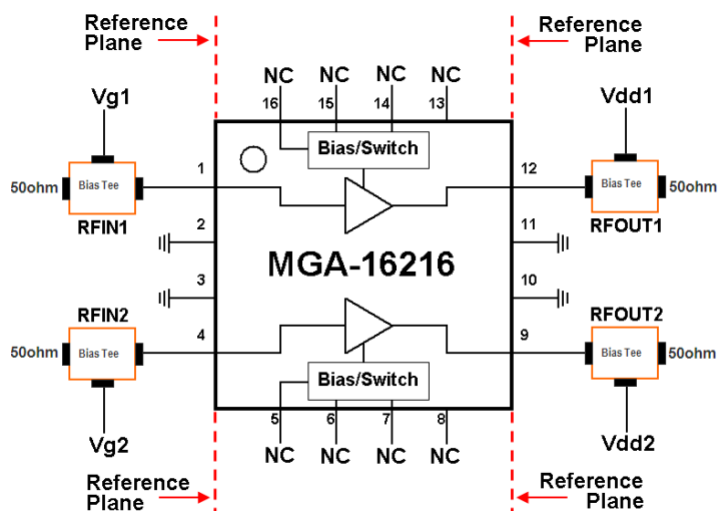

Figure 7. RFinut and RFoutut Reference Plane
2. Idd can be obtained by varying the Vg1/Vg2. Refer to figure 7.
2. Scattering and noise parameters are measured on coplanar waveguide made on 0.010 inch thick ROGER 4350. The input reference plane is at the end of the RFinput pin and the output reference plane is at the end of the RFoutput pin as shown in Figure 7.
3. Idd can be obtained by varying the Vg1/Vg2. Refer to figure 7.